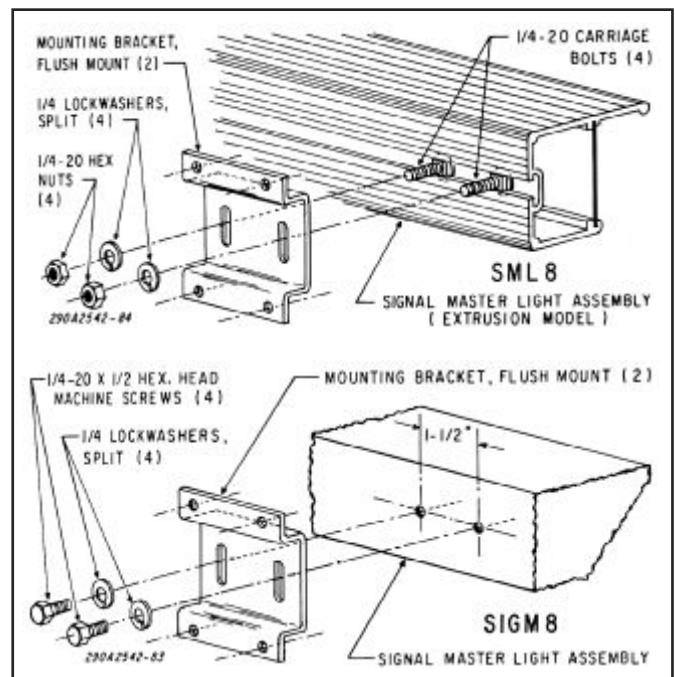

Figure 1.
1. For Models SML6/SML8, see Figure 1. Assemble the brackets on the light assembly using the 1/4" split lockwashers and nuts.
For Models SIGM6/SIGM8, see Figure 1. Assemble the brackets on the light assembly using the hex head screws.